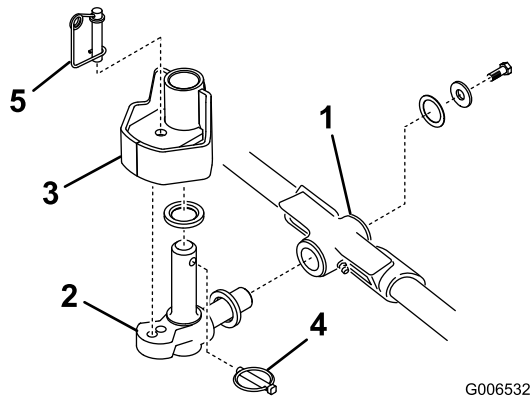

Figure 17
1. Insert a thrust washer onto horizontal shaft of pivot knuckle as shown in Figure 17.
2. Insert the horizontal shaft of the pivot knuckle into the mounting tube of the carrier frame (Figure 17).
3. Secure pivot knuckle to carrier frame with a thrust washer, flat washer and a flange head cap screw (Figure 17).
4. Insert a thrust washer onto vertical shaft of pivot knuckle (Figure 17).
5. If removed, insert the vertical shaft of the pivot knuckle into lift arm pivot hub (Figure 17). Guide
6. Insert the lynch pin into the cross hole on the pivot knuckle shaft (Figure 17).
Note: If fixed cutting unit position is required, insert steering locking pin into pivot knuckle mounting hole (Figure 17).
11. Hook spring wire around bottom of steering locking pin (Figure 17).